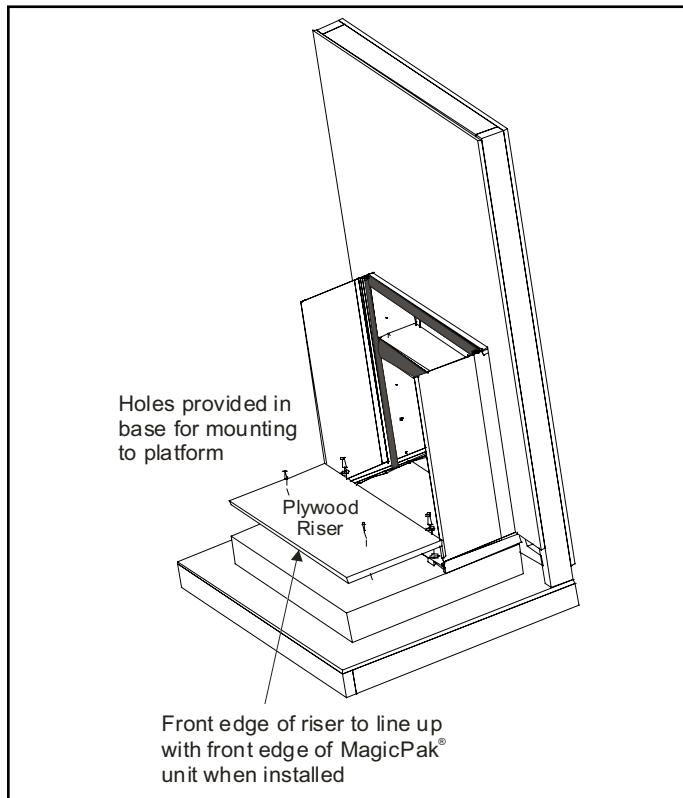

Figure 10. Attaching Base and Riser to Platform
4. Attach the base to the platform using the lag screws and washers provided in the kit (Figure 10). Attach the front of the base to the platform with three 1/1/2" deck screws (field-supplied) using the holes provided.
- Attach 3/4" plywood riser (supplied) to platform using 1-1/2" deck screws (Figure 10). Riser must be installed as it is used to level the platform with the plastic wall sleeve base. Position the riser so that the front edge of the riser is aligned with where the front edge of the unit will be when it is installed (see Recommended Depth in Step 2 of the Installation Preparation section on Page 2). The front edge of the unit is the edge nearest the condensate connection. The back edge of the riser does not need to be flush against the plastic base of wall sleeve.